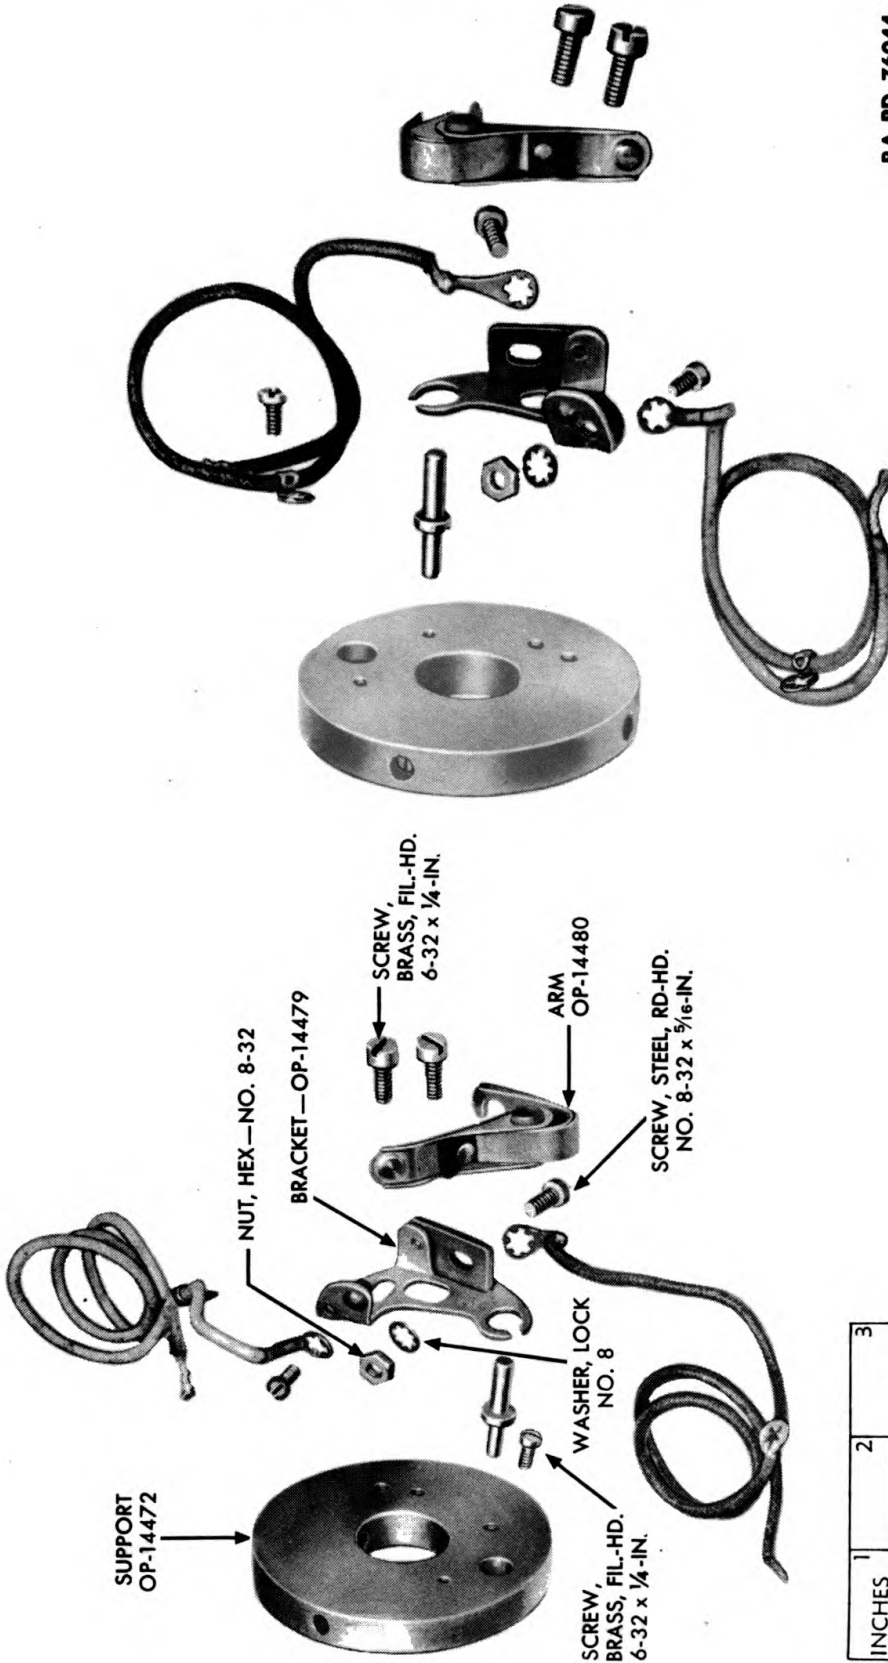

Figure 42 — Contact Assemblies — Parts
(13) The contact assemblies can be further disassembled as shown in figure 42 by removing the screws fastening the arm and bracket to their support, but this is not recommended.